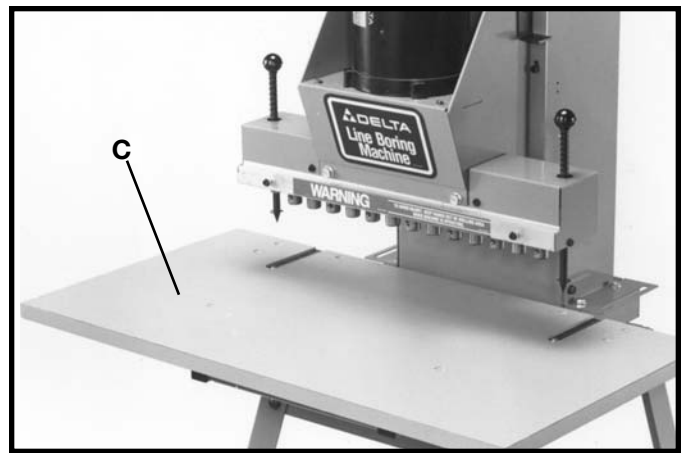

Fig. 9
3. Center table (C) Fig. 9, on the machine frame as shown.